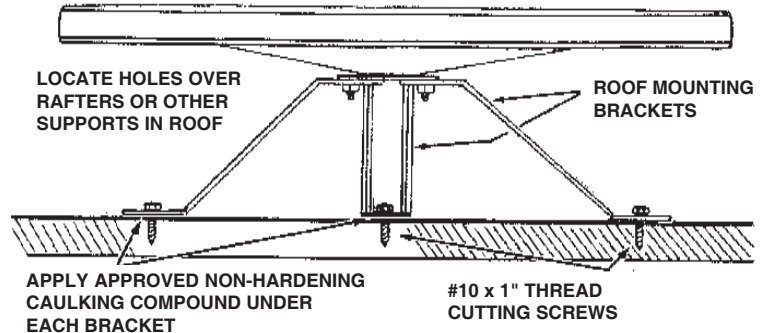

**FIGURE 4**
**STEP 4.** Select location for antenna on roof of vehicle. Try to position antenna about 24" from edge of vehicle roof, convenient to download entry point and as far away as possible from roof mounted equipment such as air conditioners or roof vents. See Figure 4.